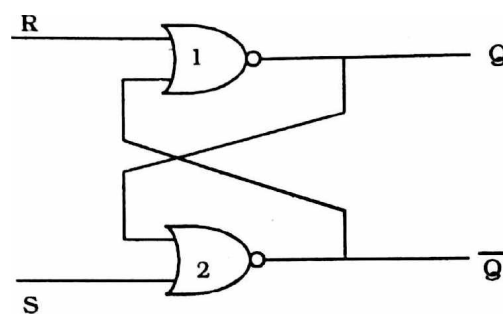

Fig. 5.15 Basic latch using NOR gates
The simplest type of flip flop is the Reset Set (RS) flip flop. It can be constructed using two NAND gates or two NOR gates. Figure 5.15 shows the basic RS flip flop using two NOR gates. The two NOR gates are cross coupled so that the output of NOR gate 1 is connected to one of the inputs of NOR gate 2 and vice versa.